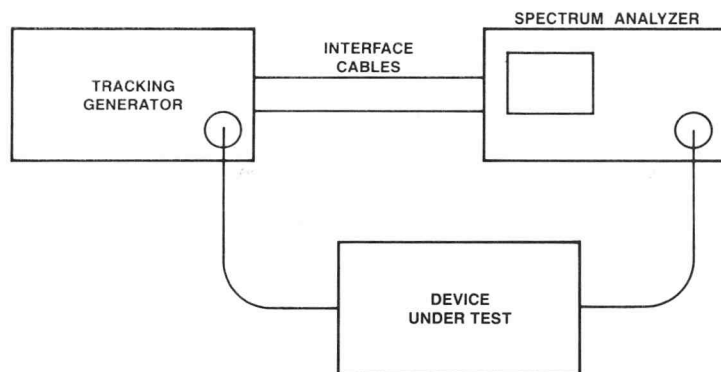

Figure 20. Spectrum Analyzer (SA) and Tracking Generator (TG) Test Setup.
A Tracking Generator (TG), when used in conjunction with a Spectrum Analyzer (SA), allows such items as filters, amplifiers, couplers, etc. to be observed with respect to frequency (i.e., Frequency Response). This is performed by connecting the output of the TG (TG output frequency is synchronized to frequency being analyzed by Analyzer at any point in time i.e., "Tracking Generator") to the input of the device being tested, and monitoring the output of the device with the SA (as shown in Fig. 20). This type of measurement is known as an S12 magnitude only measurement, since the phase shift of the signal through the device is not displayed.